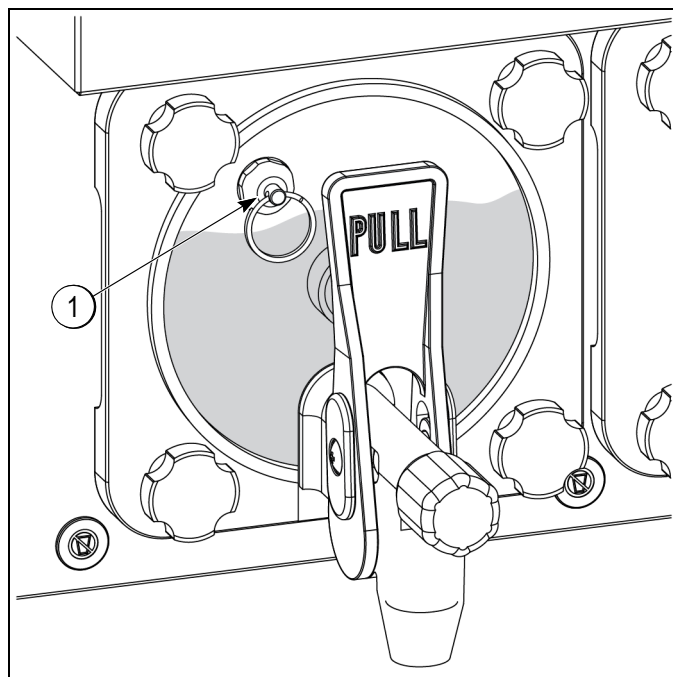

Figure 2-42
5. Valves will shut off again, see figure 2-42 for the approximate liquid level after valves shut off for the second time.
6. Pull on the relief valve ring (1) to relieve pressure. Valves will automatically restart when pressure drops below 20 BPU. When valves activate, **RELEASE** relief valve ring (1).